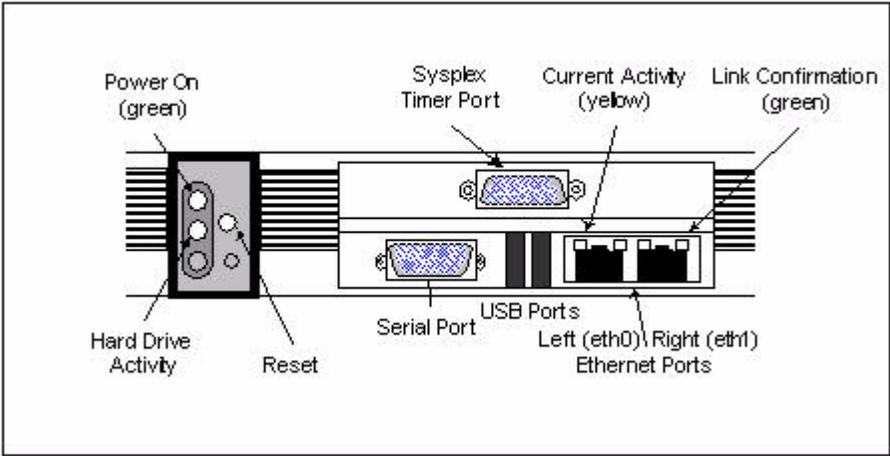

Fig. 2: Connectors on the front panel
2. Connect the left Ethernet port on the S100 (see Fig. 2) to your LAN using an Ethernet cable. If only one network connection is being made, you must use the left activated port.